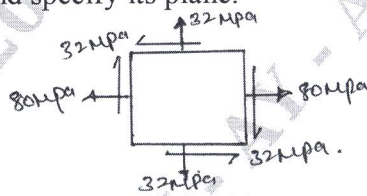

Fig.Q.3(c)
- c. At a certain point in a strained material the values of the normal stresses across two planes at right angles to each other are 80MPa and 32MPa, both tensile and there is a shear stress of 32MPa CW on the plane carrying 80MPa stresses across the planes as shown in Fig.Q.3(c). Determine: